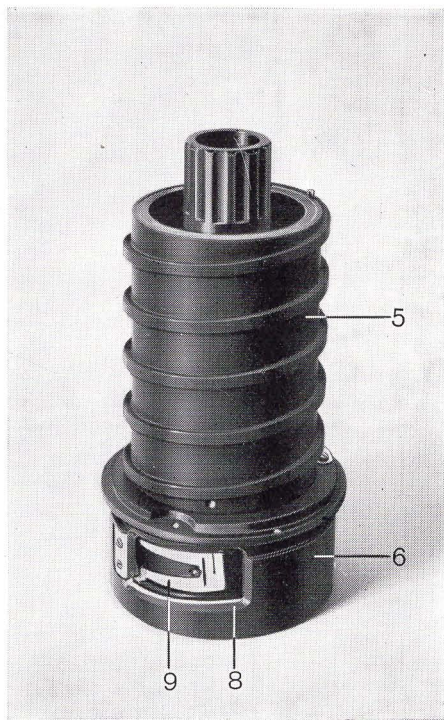

fig. 3
free and the internal cylinder can be screwed out upwards with respect to ring (6) as shown in figure 3.
Looking at window (8) in figure 3, one can